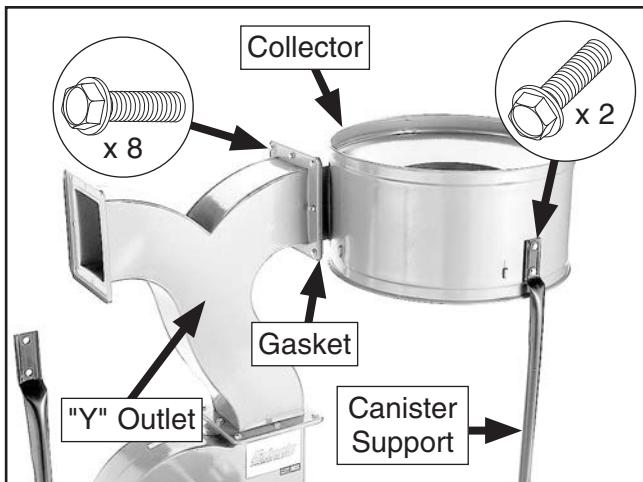

Figure 16. Collector installed.
- With assistance, place one of the rubber gaskets around the rim of the intake on one of the collectors, then secure the collector to the metal "Y" outlet with (8) $5/16$ "-18 x $1/2$ " flange bolts (see **Figure 16**).
- Attach the top of the canister support to the collector with (2) $5/16$ "-18 x $1/2$ " flange screws, as shown in **Figure 16**.